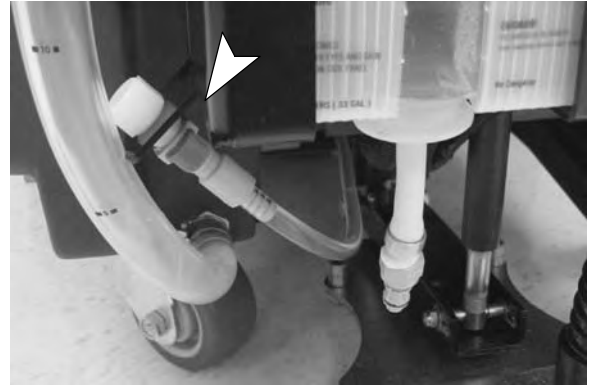

FIG. 34
6. FaST Model: Connect the FaST-PAK supply hose to the storage plug when not in use (Figure 34). Remove any dried concentrate from the hose connector by soaking it in warm water.